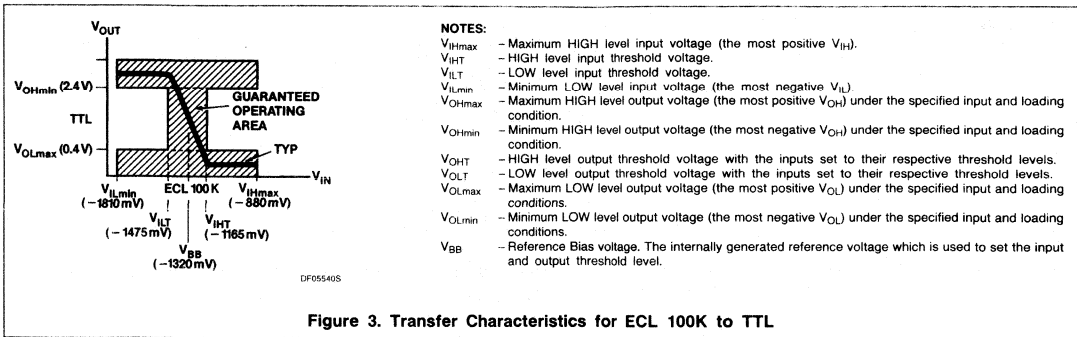

Figure 3. Transfer Characteristics for ECL 100K to TTL
- The specified limits shown in the DC Characteristics can be met only after thermal equilibrium has been established. Thermal equilibrium is established by applying power for at least 2 minutes while maintaining transverse air flow of 2.5 meters/s (500 linear feet/min) over the device either mounted in the test socket or on the printed circuit board. Test voltage values are given in the DC Operating Conditions and defined in Figure 3.